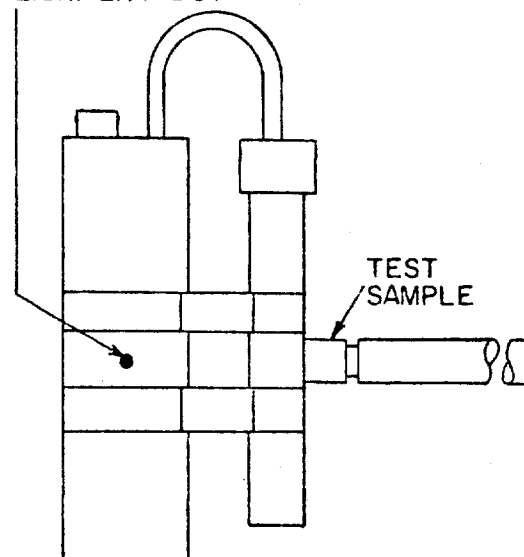

FIGURE 4-4. POSITION 500,
STEP 6. Place the active end of the test sample perpendicular against the smaller cylinder of the Probe Assy. as shown in Figure 4-4. The meter should read between 10 and 30 mR/hr.
STEP 7. Turn the range switch to the 50 position. Hold the test sample as shown in Figure 4-4. The meter should read between 10 and 20 mR/hr.
STEP 8. Turn the range switch to the 5 position. Hold the test sample as shown in Figure 4-4, above. The meter should read between 1 and 2 mR/hr.